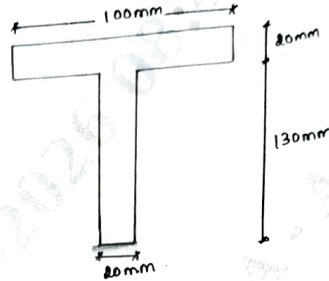

Fig.Q5(b)
- b. A beam with cross section shown in Fig.Q5(b) is simply supported and carries a maximum bending moment of 16 kN-m. Calculate maximum compressive and tensile stress.